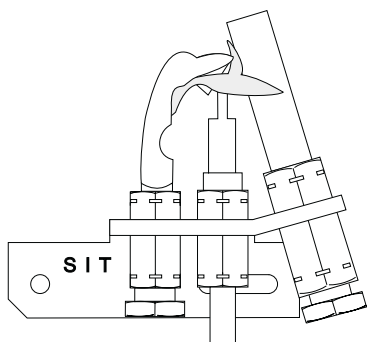

Figure 25a. SIT Pilot Burner used on the EP28-F2 model.
1. Determine which pilot is installed in the fireplace based on figures 25a and 25b.
3. Adjust pilot key to provide properly sized flame. (See figure 25a or 25b).